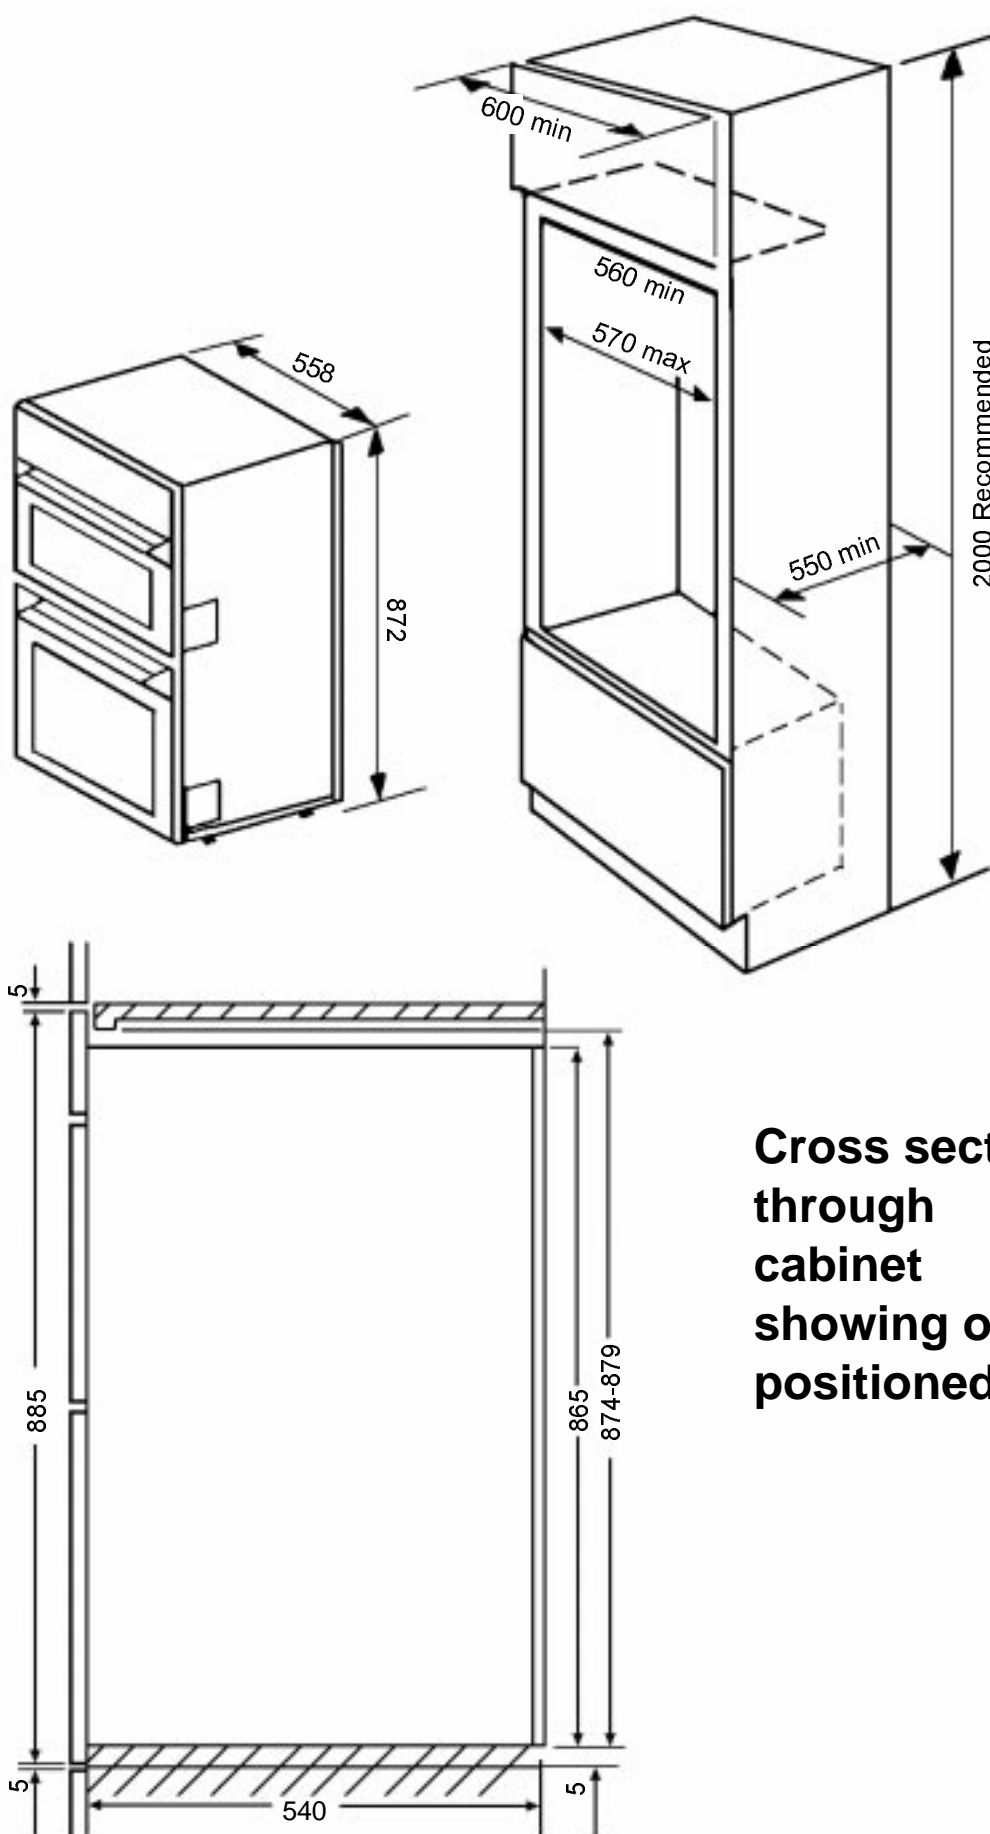

Fig. 2 Built In Installation
- This cooker is designed to be fitted in cabinets of the recommended dimensions as shown in Fig. 2. If your cabinet interior dimension is between 565-570mm the oven may still be fitted. However a minor modification to the cabinet will be required.
- Make sure the cabinet is the correct size for the appliance to be fitted (Ref. Fig. 2).